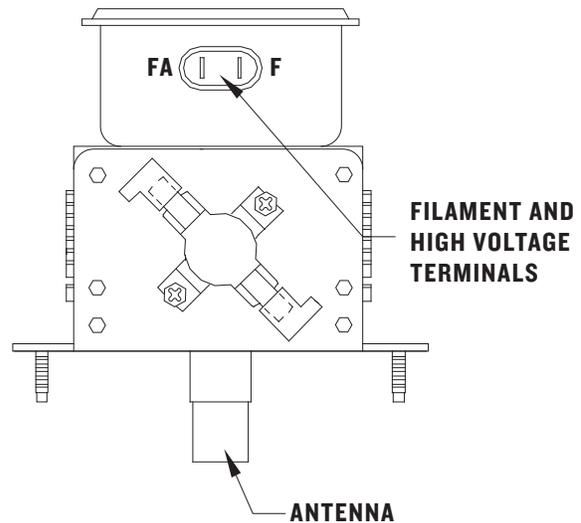

FIGURE 22: Magnetron (P/N 100861)
2. Isolate the Magnetron from the circuit by removing the wires from the F and FA terminals. Figure 22.
3. An Ohmmeter connected between the Filament Terminals (F, FA) should indicate a reading of less than 1 Ohm. Figure 22.